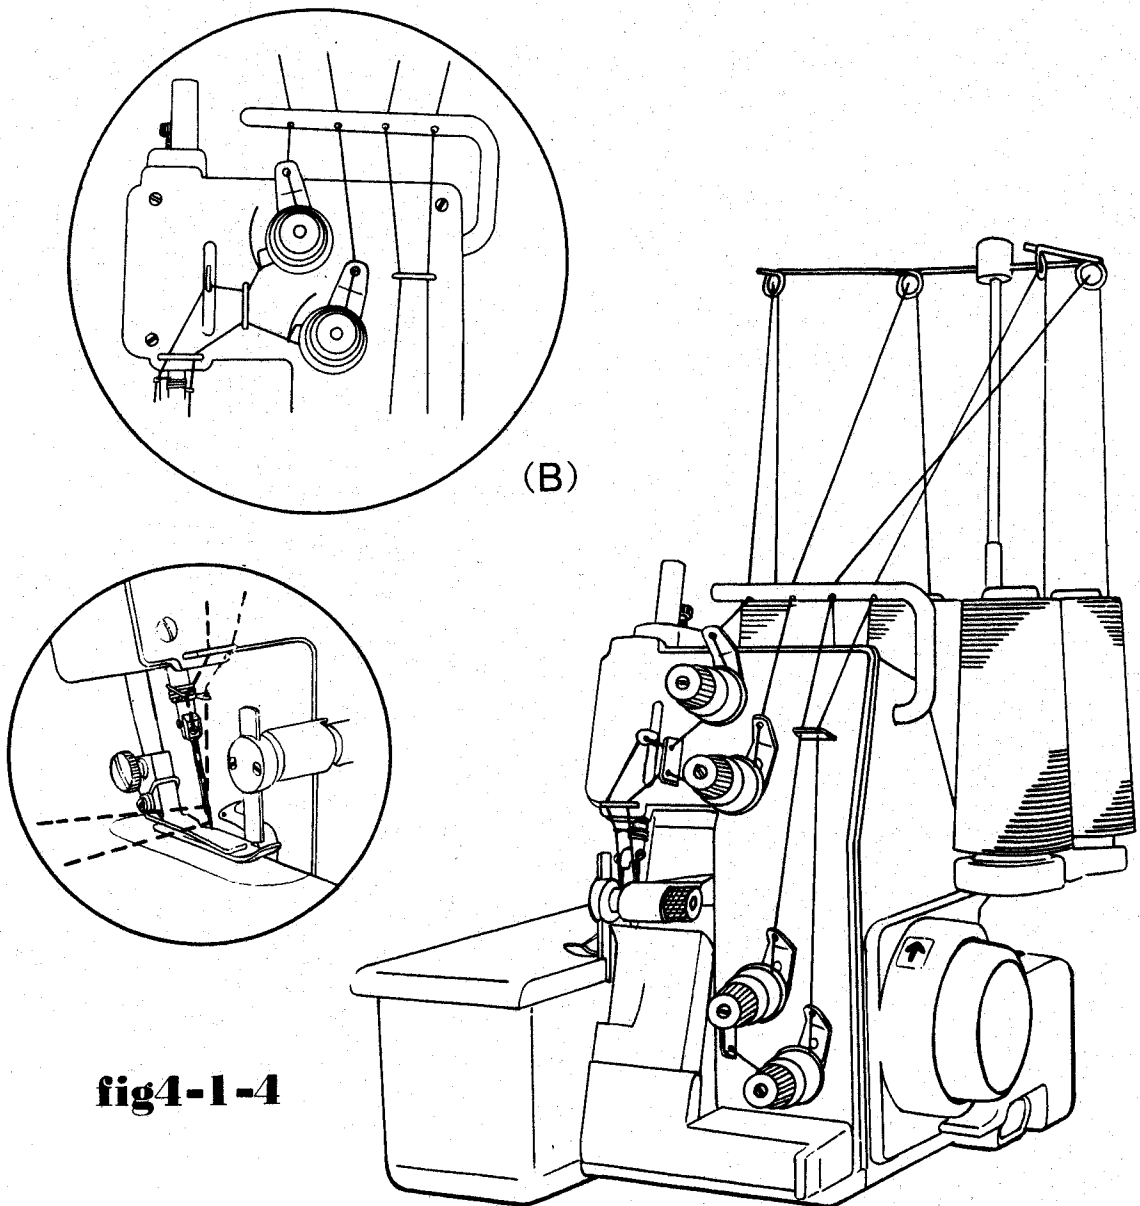

fig4-1-4
- (4) Chainstitch needle thread..... (fig. 4-1-4, page 10)